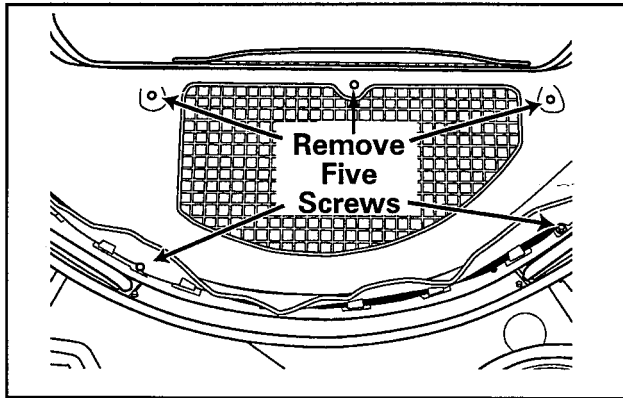

Figure 6-2
**NOTE:** *Two screws are hidden under the felt seal. (See Figure 6-2)*